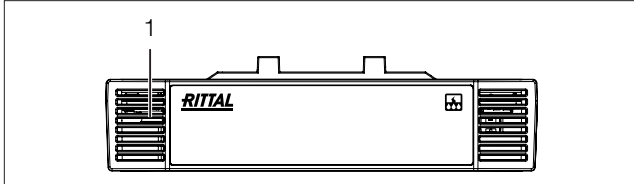
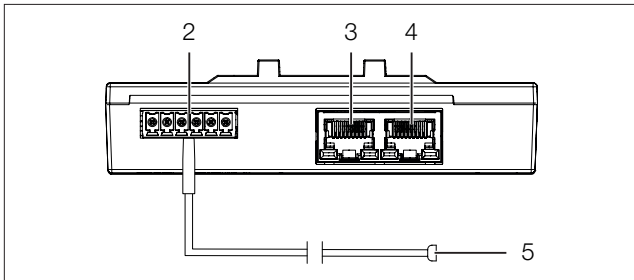

Fig. 13: Front of the leak sensor
Fig. 14: Rear of the leak sensor
A multi-LED for the status display is integrated into the front of the leak sensor (fig. 13, item 1). Further LEDs are located at the rear on the CAN bus connection (fig. 14, item 3 and 4).